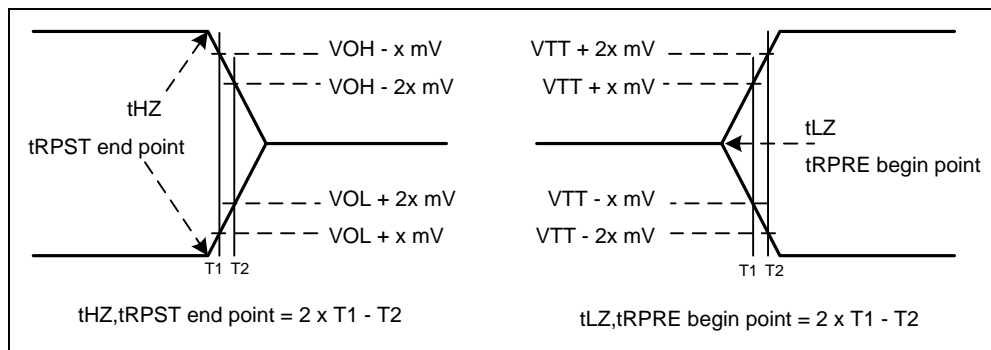

Figure 18 – Method for calculating transitions and endpoints
14. t_{RPST} end point and t_{RPRE} begin point are not referenced to a specific voltage level but specify when the device output is no longer driving (t_{RPST}), or begins driving (t_{RPRE}). Figure 18 shows a method to calculate these points when the device is no longer driving (t_{RPST}), or begins driving (t_{RPRE}) by measuring the signal at two different voltages. The actual voltage measurement points are not critical as long as the calculation is consistent.
15. t_{HZ} and t_{LZ} transitions occur in the same access time as valid data transitions. These parameters are referenced to a specific voltage level which specifies when the device output is no longer driving (t_{HZ}), or begins driving (t_{LZ}). Figure 18 shows a method to calculate the point when device is no longer driving (t_{HZ}), or begins driving (t_{LZ}) by measuring the signal at two different voltages. The actual voltage measurement points are not critical as long as the calculation is consistent. $t_{LZ}(\text{DQ})$ refers to t_{LZ} of the \overline{DQ} 's and $t_{LZ}(\text{DQS})$ refers to t_{LZ} of the (\overline{UDQS} , \overline{LDQS} , \overline{UDQS} and \overline{LDQS}) each treated as single-ended signal.